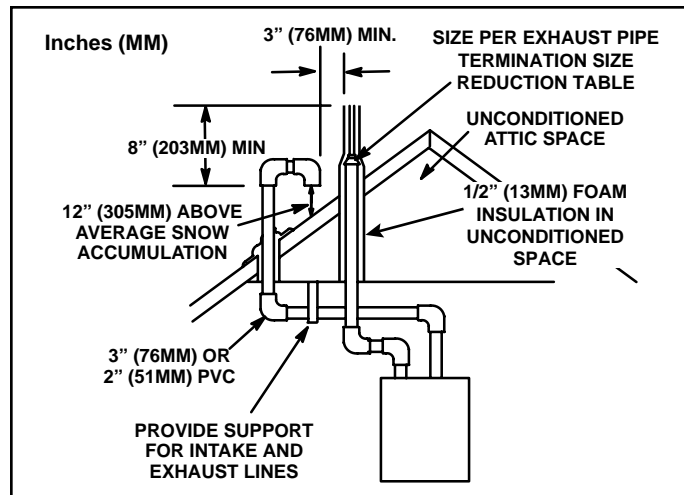

Figure 29. Direct Vent Roof Termination Kit (15F75 or 44J41)
Intake and exhaust pipes may be routed either horizontally through an outside wall or vertically through the roof. In attic or closet installations, vertical termination through the roof is preferred. Figure 29 through Figure 37 show typical terminations.
3. On roof terminations, the intake piping should terminate straight down using two 90° elbows (see Figure 29).